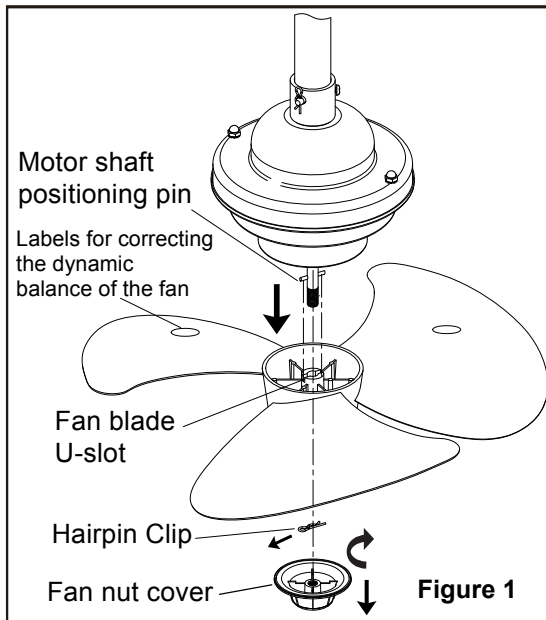

Figure 1
- 1. Installing Remote control Holder:** (Figure 1)
Remove the fan nut cover by turning clockwise, insert the screwdriver into the empty position of the hairpin, pull out the hairpin, and then take out the fan blade. (Figure 1)
Be careful not to tear off the balance stickers on the fan blades. The fan blades have been calibrated for dynamic balance, so as not to cause the lamp body to shake when the fan is running.(Figure 1)